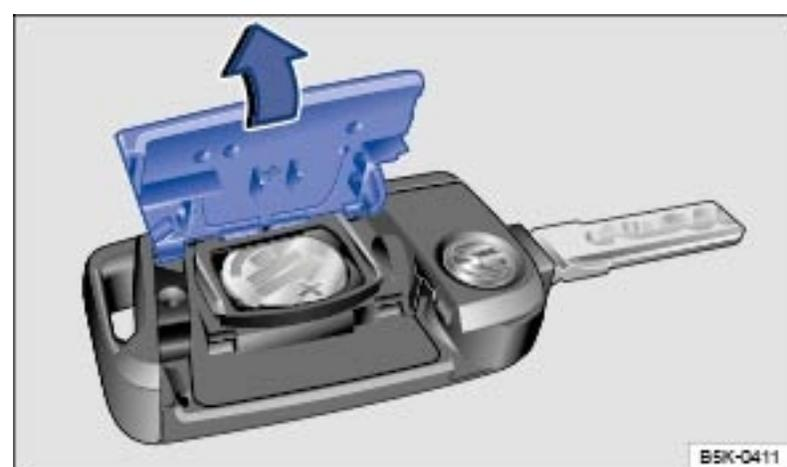

Fig. 24 Remote control vehicle key: Open battery compartment cover.
cover → Fig. 24.
- ▶ Remove the cover on the back of the remote control vehicle key in the direction of the arrow → Fig. 24 using a suitable object such as a coin →ⓘ.
- ▶ Position the cover as shown → Fig. 24 and press it down (opposite direction of the arrow) until you hear it click into place.